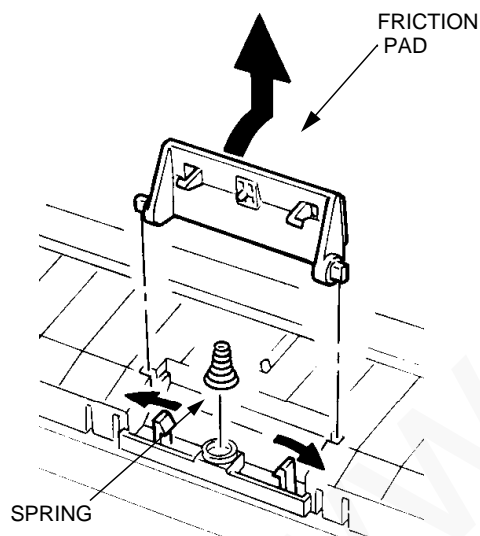

Figure 1. Friction pad
9. Release the paper guide locking tabs under the friction pad (figure 1).